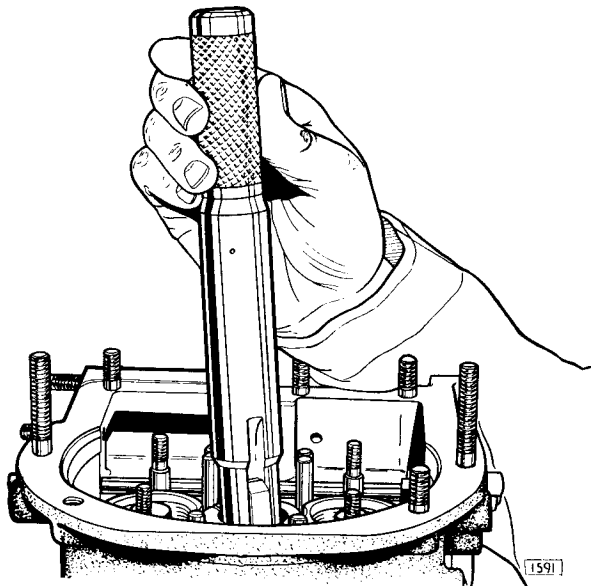

Fig. 29. Aligning the splines (Tool No. L.185).
- Ensure that the splines in the uni-directional clutch and planet carrier are in alignment. These splines are visible at the bottom of the bore in the overdrive unit. If alignment is necessary, use the dummy mainshaft as shown in Fig. 29.